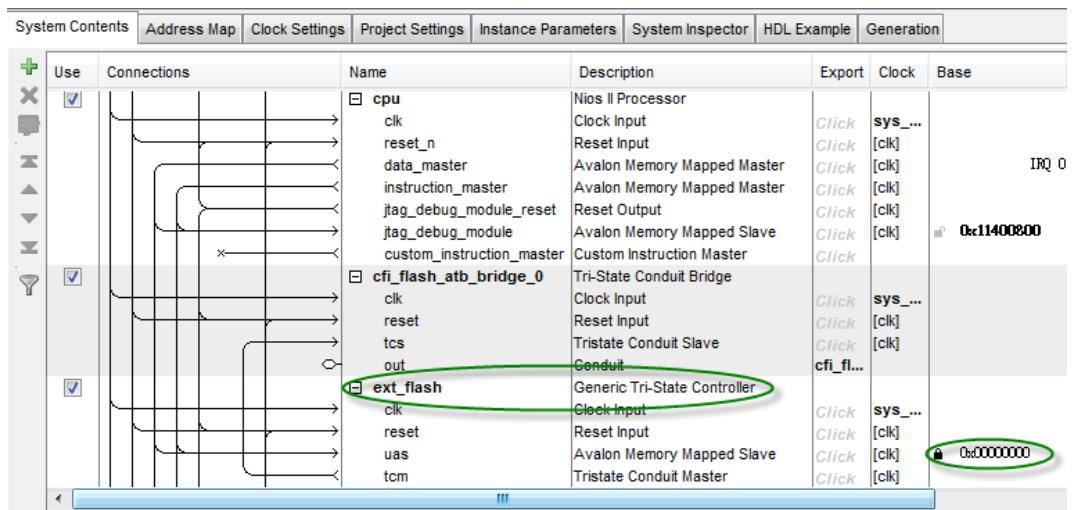

Figure 4-3 Flash Controller Settings in QSYS
1. QSYS should include a Flash controller for the CFI Flash on the development board. Please ensure that the base address of the controller is 0x00, as shown in **Figure 4-3**.